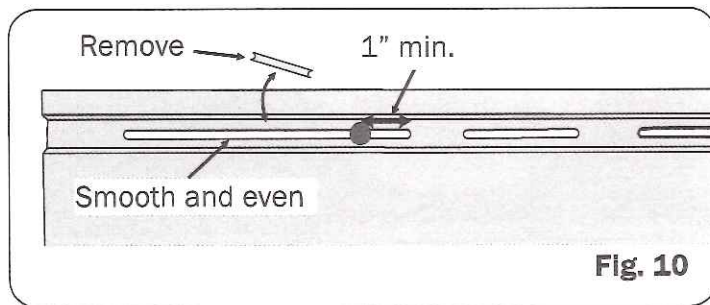

Fig. 10
- In situations where it is not possible to place the nail in the center of the nailing slot (foam sheathing, etc.) it is permissible to remove the material in between two slots to allow for more room for expansion and contraction (Fig. 10).